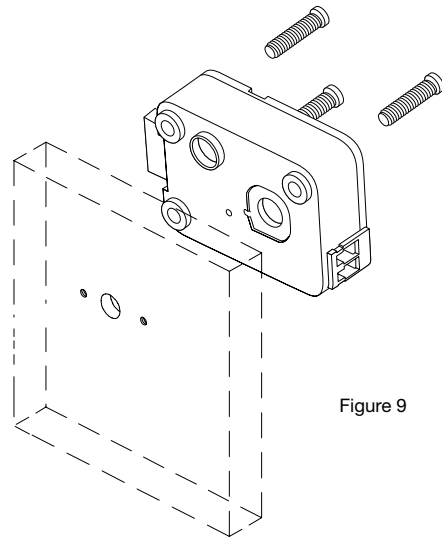

Figure 9
4. Mount the lock with the three US 1/4-20 (Metric M6X1) screws. The recommended torque for mounting screws on the Swing bolt lock is 30 in./lbs. (3.4 N•m) (Figure 9).